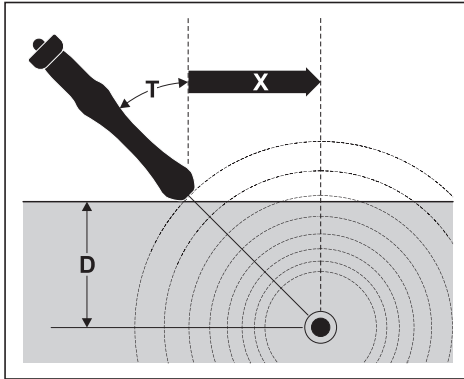

Fig. 22: Determining the offset depth using triangulation
- b) Tilt the receiver at an angle (T) between 10° and 60° (fig. 22).